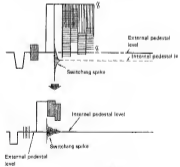

Fig. 10-10 Black level adjustment
3. Adjust VR105 to align the internal black level shown in Fig. 10-10 with the external pedestal level (center of switching spike).